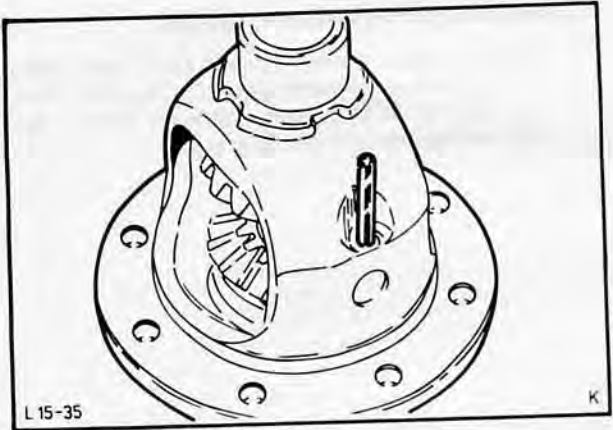
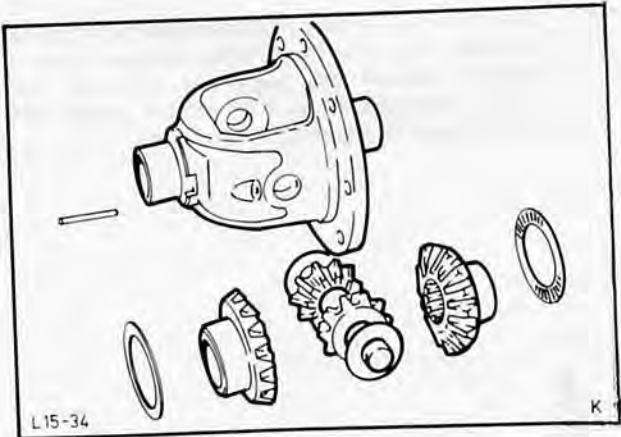

Fig. 63. Roll pin of differential shaft
Fig. 64. Differential exploded
10. Remove differential gears and side gears from differential housing, Fig. 64. With a suitable drift, force out roll pin securing differential shaft or cross in the differential housing, Fig. 63.